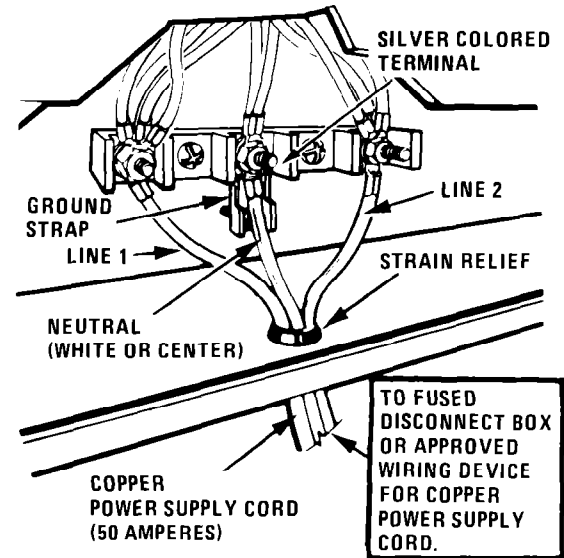

FIGURE 4
- Connect the neutral wire of the copper power supply cord to the center silver colored terminal of the terminal block and connect the other wires to the outer terminals. See Figure 4.